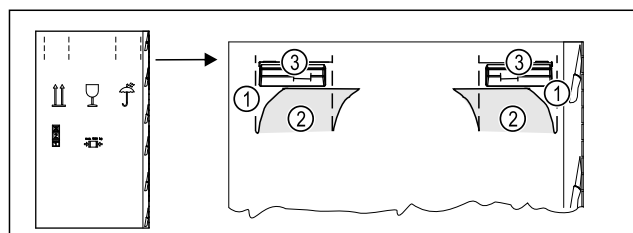

Fig. 3
- ▶ Press in the packaging carton at the top of the perforation Fig. 3 (1).
- ▶ Pull out the pressed-in flaps Fig. 3 (2).
- ▶ The right and left carrying handles Fig. 3 (3) are visible.
- ▶ Hold the appliance by the carrying handles Fig. 3 (3).